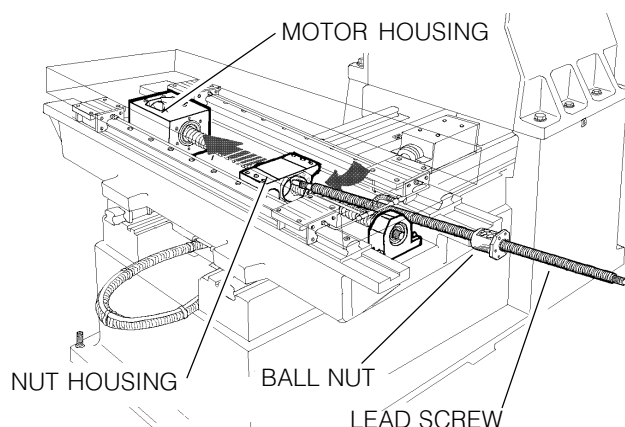

Fig. 11-3 Install lead screw from right side.
3. Insert the **lead screw** through the **nut housing** and **motor housing** (See Fig. 11-3), taking care not to make contact with the screw threads, causing possible damage.